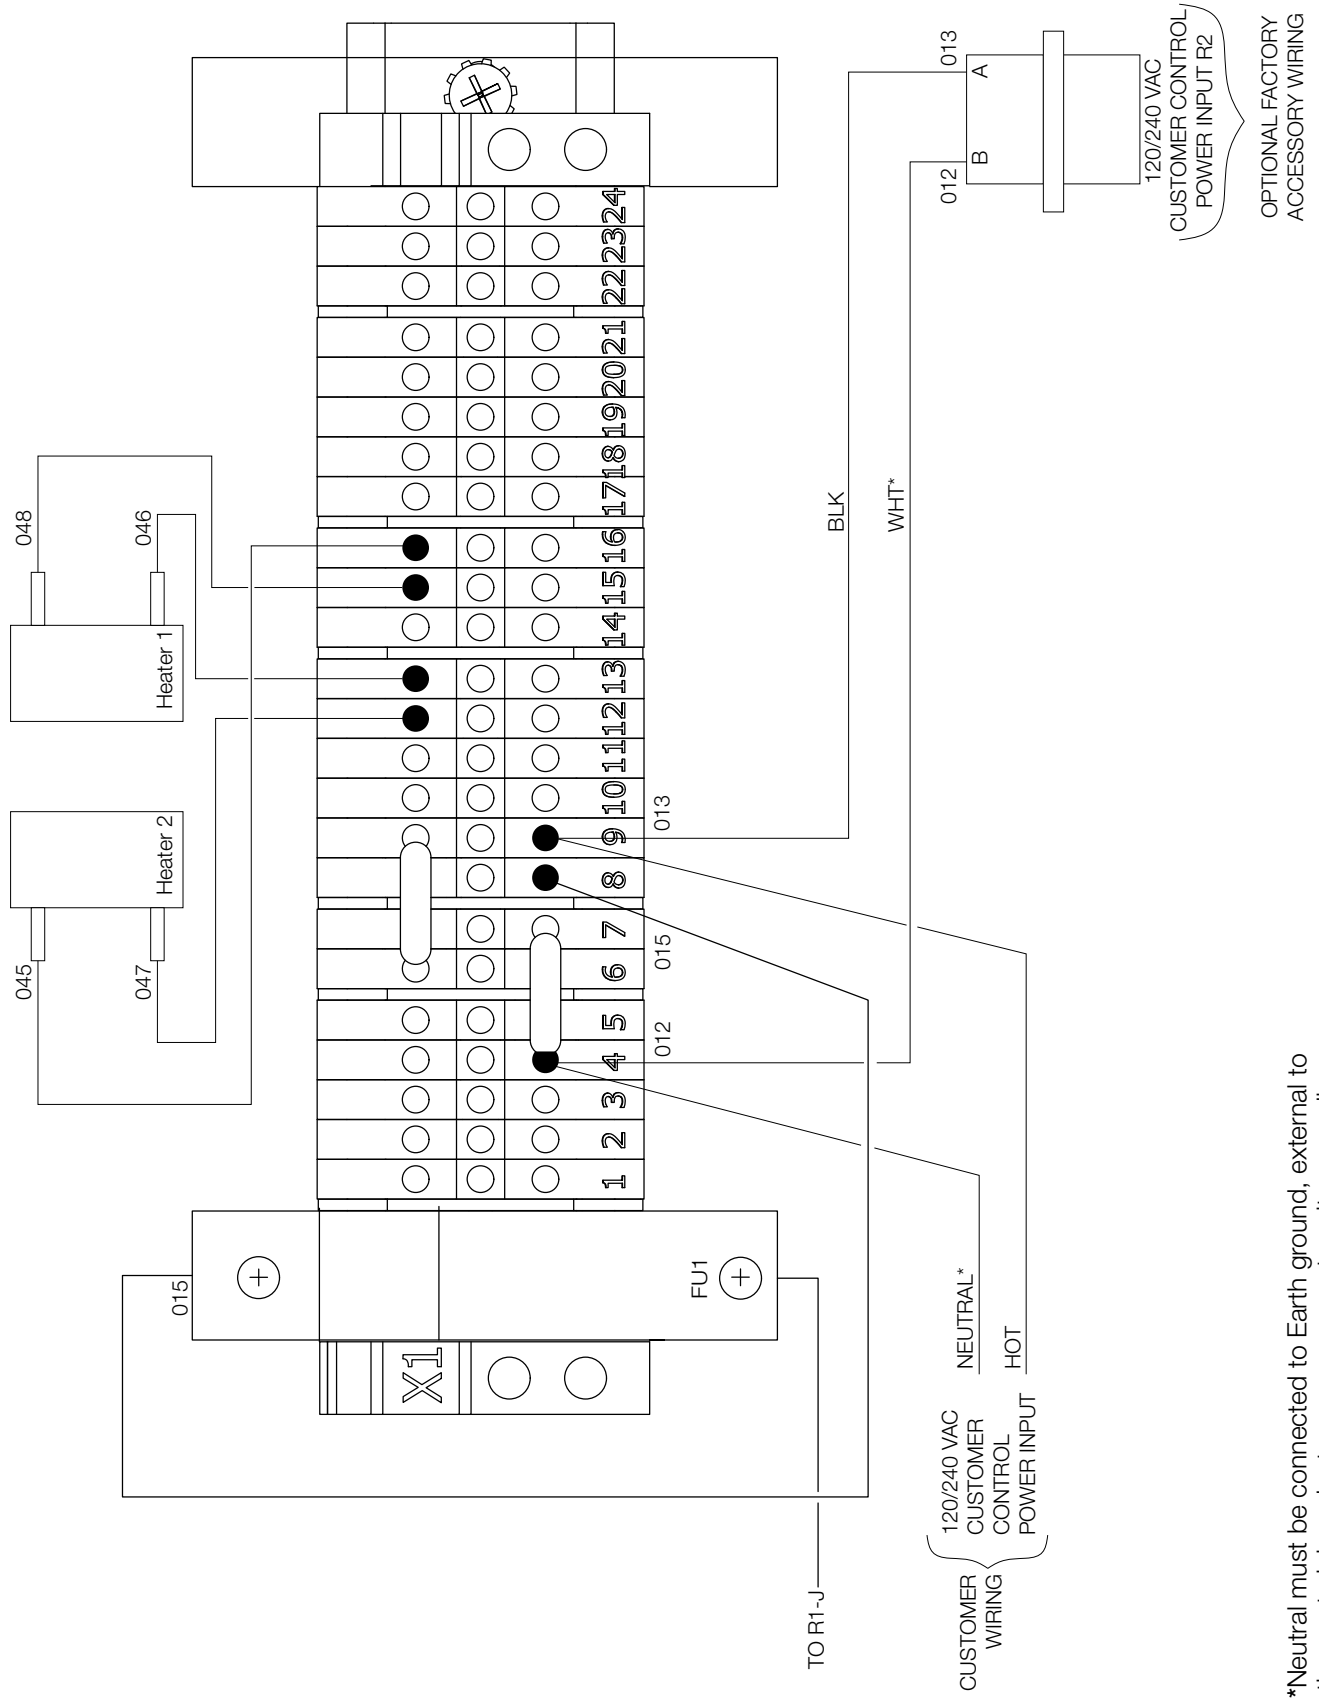

Figure 22. 120 or 240 VAC 2-wire control power input (shown with default factory wiring connected to single-phase voltage input supply).
See Figure 22 for single-phase incoming voltage supply for 120 VAC or 240 VAC.
Terminal Block X1 provides power and sensing voltage to the SPEAR single-phase recloser control modules. Terminal Block X1 is used to connect sensing transformer voltage. The wiring of the transformers should follow the application illustrations per Figure 22.
- Follow the grounding requirements shown on the Voltage Sensing wire diagram appropriate for your two-wire application (Figure 22).